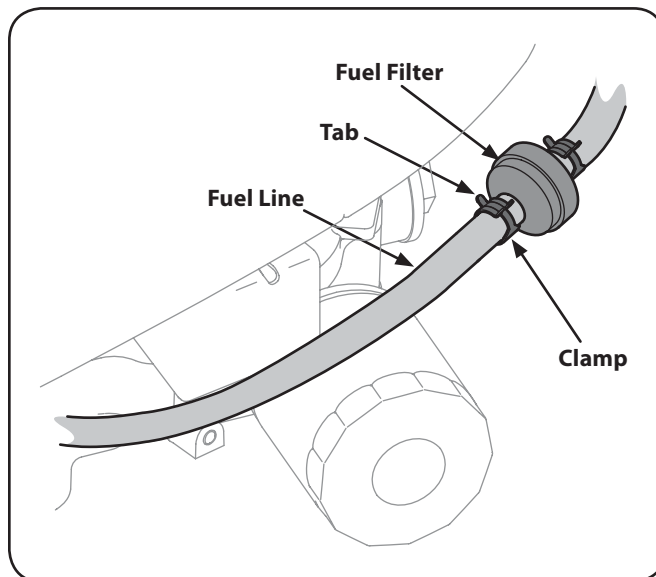

Figure 6-11
2. Use pliers to squeeze tabs on the clamps, then slide the clamps away from the fuel filter. See Fig. 6-11.